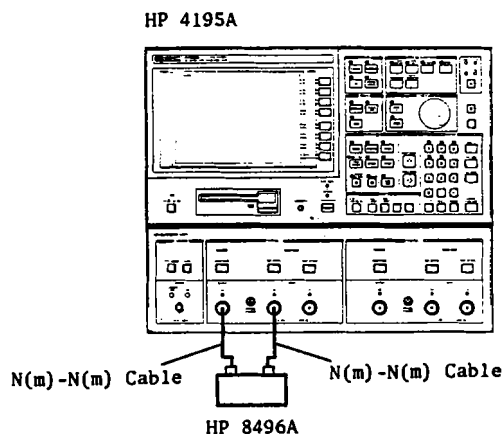

Figure 2-12. Power Sweep Linearity Test Setup
3. Configure the test equipment as shown in Figure 2-12.